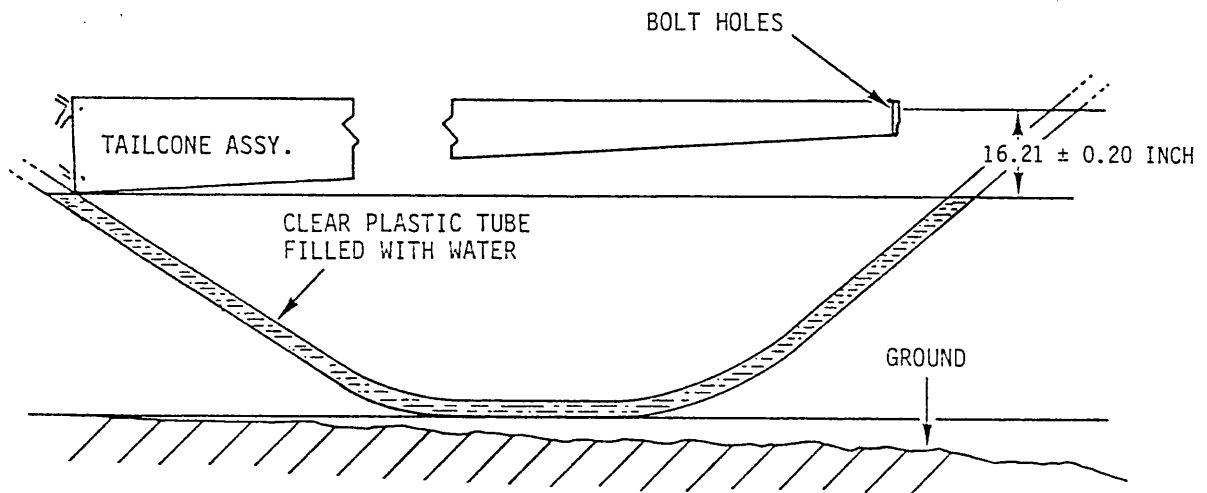

FIGURE 4-2C HORIZONTAL LEVELING
5. Refer to Figure 4-2C. Fill a clear plastic tube with water to level of forward end of tailcone at lowest point. Extend plastic tube under tail rotor gearbox. Recheck water level.
6. Refer to Figure 4-2C. From level of forward end of tailcone (at lowest point) to horizontal centerline of tail rotor gearbox (horizontal mounting bolts), the distance should be 16.21 ± 0.20 inches. Adjust height of tailcone as required. Use stand to hold tailcone in place.